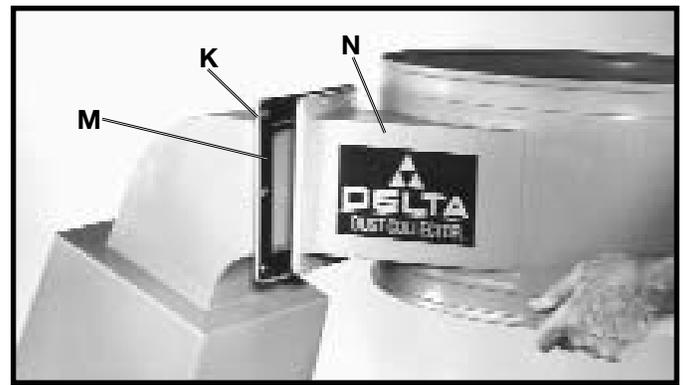
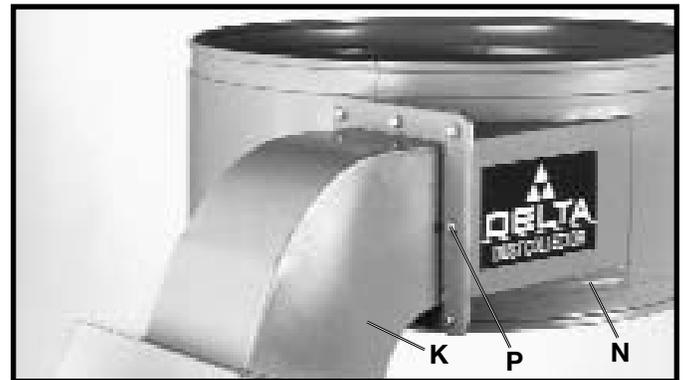

Fig. 12
Fig. 13
8. Align mounting holes in drum (N) Fig. 12, with gasket (M), which was assembled in STEP 7. Place a 5/16" lockwasher onto a 5/16-18x5/8" hex head screw, insert screw (P) Fig. 13 through chute (K), thread screw into drum (N) and tighten securely. Repeat this process for the seven remaining holes.